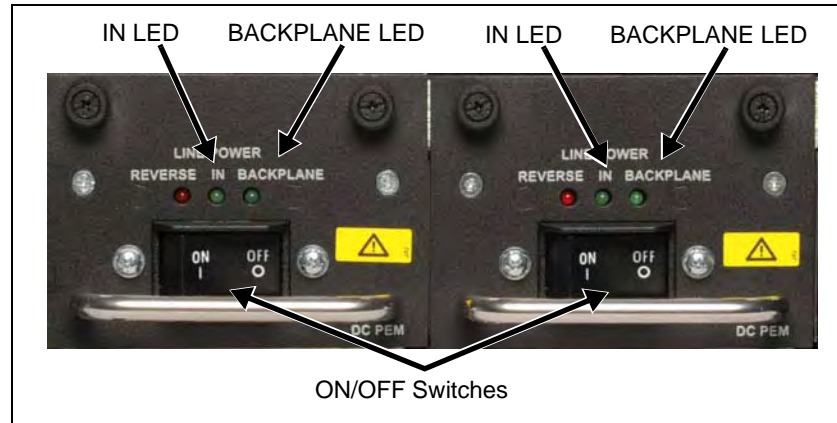

Figure 4.3 - DC PEMs Front Panels
- **DC Units:** Press the ON/OFF switch to the ON position on both PEMs on the front of the G10 chassis (Figure 4.3).
- IN LEDs are GREEN (Figure 4.3) indicating power is connected properly
- BACKPLANE LEDs are GREEN (Figure 4.3) indicating the PEM is sending power through the backplane